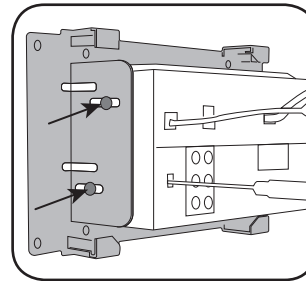

Fig. 2.1
- Unbox the aftermarket radio. Install the metal bracket provided with the VW1 kit to the aftermarket radio using the screws supplied with the aftermarket radio. (Fig. 2.1)